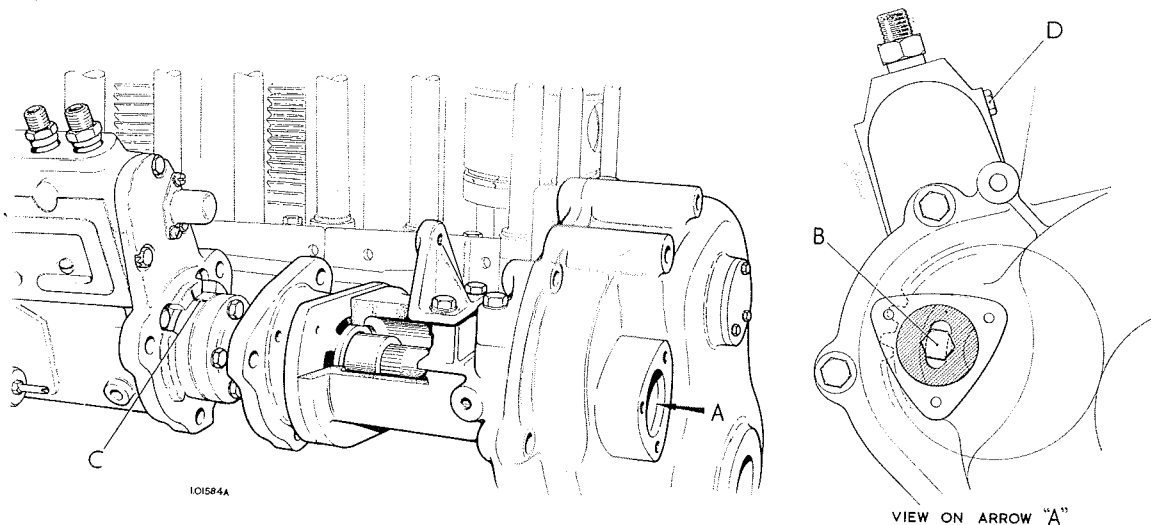

Fig. 9.—Fuel Pump Timing
- (a) Bolt the driving gear to the fuel pump drive shaft with the bolts in the centre of the gear slots. Only one bolt 'B' to be tightened (see Fig. 9).
- (c) Position the fuel pump drive shaft so that tightened bolt 'B' appears in the centre of the access hole when the gearcase end cover is located in position (view 'A', Fig. 9).